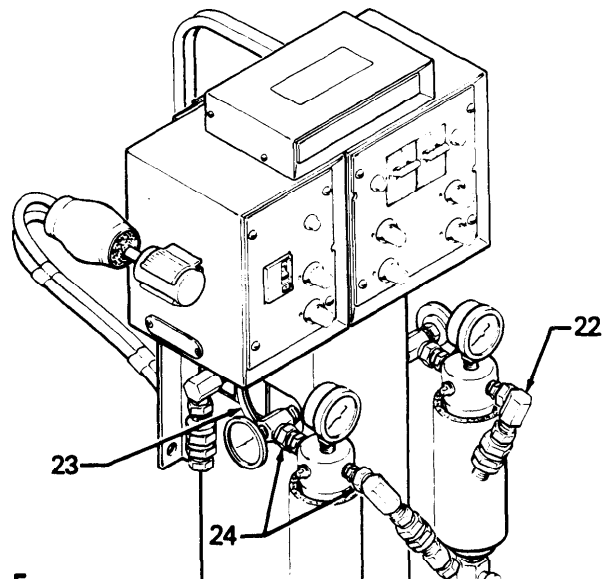

Fig 5
- g. Connect the whip hose (103) to the main hose assembly.
- (1) Connect the corresponding fluid hoses.
- (2) Connect the hose electrical connector to the control box cable. See Fig 5, page 7.
- (3) Connect the air hoses. No alteration is needed. Do not connect the hoses to the gun yet.
10. Connect the heated hose **assembly (102 & 103)** to the heater and heated hose control (207). See Fig 5.
- a. Connect the fluid hoses to the corresponding 3/8 npt outlet union of the fluid filters (22).
- b. Connect the heat tape (16) of the whip hose to the hose control box cable (23).
- c. Connect the air hose (17) to the air manifold (229). See the Typical Installation on page 4.
Do not install any fluid shutoff device at the fluid outlet of either heater or filter! (See Ref 24, Fig 5).
13. Connect the feed hose to the **displacement** pumps. Slide an identification band (ISO or RES) over the end of each feed hose (45). Connect a feed hose between the feed pump fluid outlet (46) and the 3/4 npt(f) fluid intake valve (202) of each displacement pump (48). Refer to the Typical Installation on page 4.
14. Remove the ATC Sensor (49) from the clamp (50) and locate it *outside* in air that is typical of the surface to be sprayed. The sensor has a 15 ft (4.6 m) cable. See Fig 5, page 7.